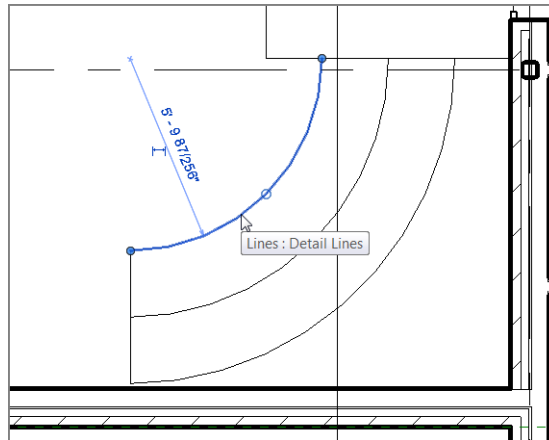

FIGURE 10.40: Selecting the smaller arc
1. Press Esc, and then select the smaller arc, as shown in Figure 10.40.